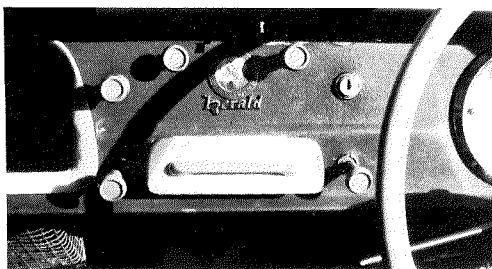

Fig. 15 - Dash with controls in semicircle. (Note 'chip basket' to left, 'open' cubby hole and white speedo.
**Dash Knobs:** Grey with white lettering; words and not international symbols were used. The dash knobs were arranged side-by-side (early '59), the spread in a 'semi-circle' (late '59 on) - Fig. 15. The turn indicator warning light was orange (1959), then green.
**Map Holder:** ('chip basket') - grey at passengers knees (Fig. 15, 17); not found on the 'S'.